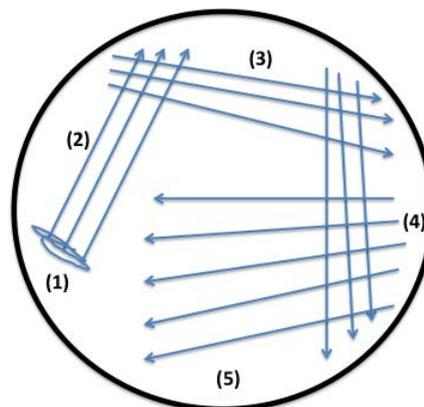

Figure 1. A simple streaking procedure to get single colonies on a plate.
2) Using the rounded end of a toothpick, pick the Mut1 colony from the SC-Leu + α F replica plate. Gently and liberally spread the rest of the cell contents from the toothpick onto a small area of the newly-labeled “Mut1” SC-Leu + α F plate to generate streak (1) as shown in Figure 1 above. Hold the toothpick at an angle and try to move the toothpick over the agar surface without digging into it.
3) With a new sterile toothpick, drag a toothpick to make three additional lines starting from streak (1) to generate the new discontinuous lines for streak group (2). Repeat for streak groups (3) – (5), using a new toothpick for each new streak group. Make sure that each new streak overlaps with a previous streak line to ensure transfer of cells from the streaked area over to the new areas.
Background: Your first functional test to check your α F-resistant mutants for false positive candidates is a shmoo assay. When two yeast cells from opposite mating types are close to each other, their secreted mating pheromones bind corresponding receptors on the surface of cells. Upon binding pheromone, the receptors undergo conformational changes and activate the downstream MAP kinase-signaling pathway, which then causes cell cycle arrest in G1 phase and induces cytoskeletal changes required for mating/fusion. Yeast cells of opposite mating types “find” each other by growing projections called “shmoos” (inspired from Al Capp’s cartoon character “The Shmoo”) towards the source of the pheromone gradient (see Figure 1 below). Cell cycle arrest and shmoo formation can be artificially induced in the laboratory by exposing yeast cells to synthetically produced pheromones. By treating your α F-resistant mutant cells with α -factor and observing the cells under a microscope to look for shmoo formation, you can directly observe whether or not your mutant cells are able to sense and respond properly to a mating pheromone. You will also observe PPY295 and *ste11* Δ cells, along with untreated samples of each strain as controls (*what is the purpose of each of these controls?*). The results of this assay will be used to exclude false positives from further analysis.
Figure 1. Yeast cells align their shmoos toward the pheromone gradient (<http://www.umassmed.edu/celldynamics/>) (left image). Al Capp’s cartoon character “The Shmoo” (right image).